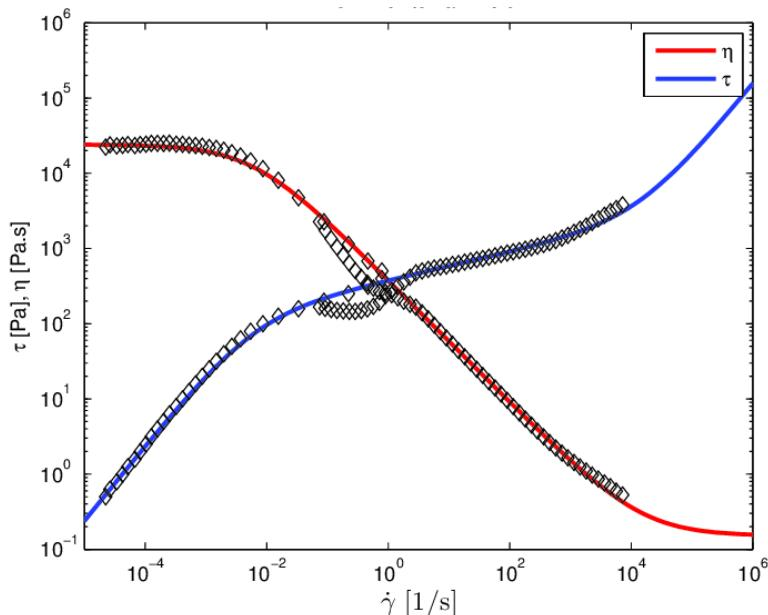

Figure 2 : Shear stress and apparent viscosity versus shear rate of a polymer melt
- (3). (a). Typically polymer melts display three characteristic regions of flow properties over a wide range of shear rates as shown in **Figure 2**. Write a short discussion on the observed results, identify the rheological flow regions of the tested polymer in **Figure 2** and explain the structural molecular changes of each region over a range of shear rates.